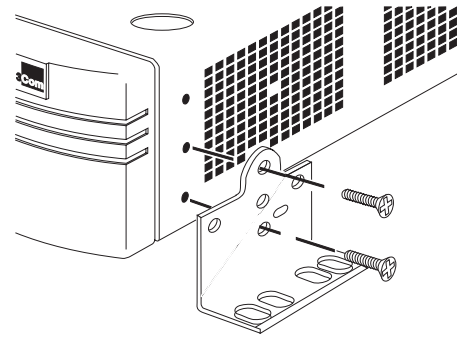

Figure 2-4 Wall Mounting the Switch 2000 TR
- 2 Position one of the enclosed mounting brackets over the mounting holes and attach. See Figure 2-4.